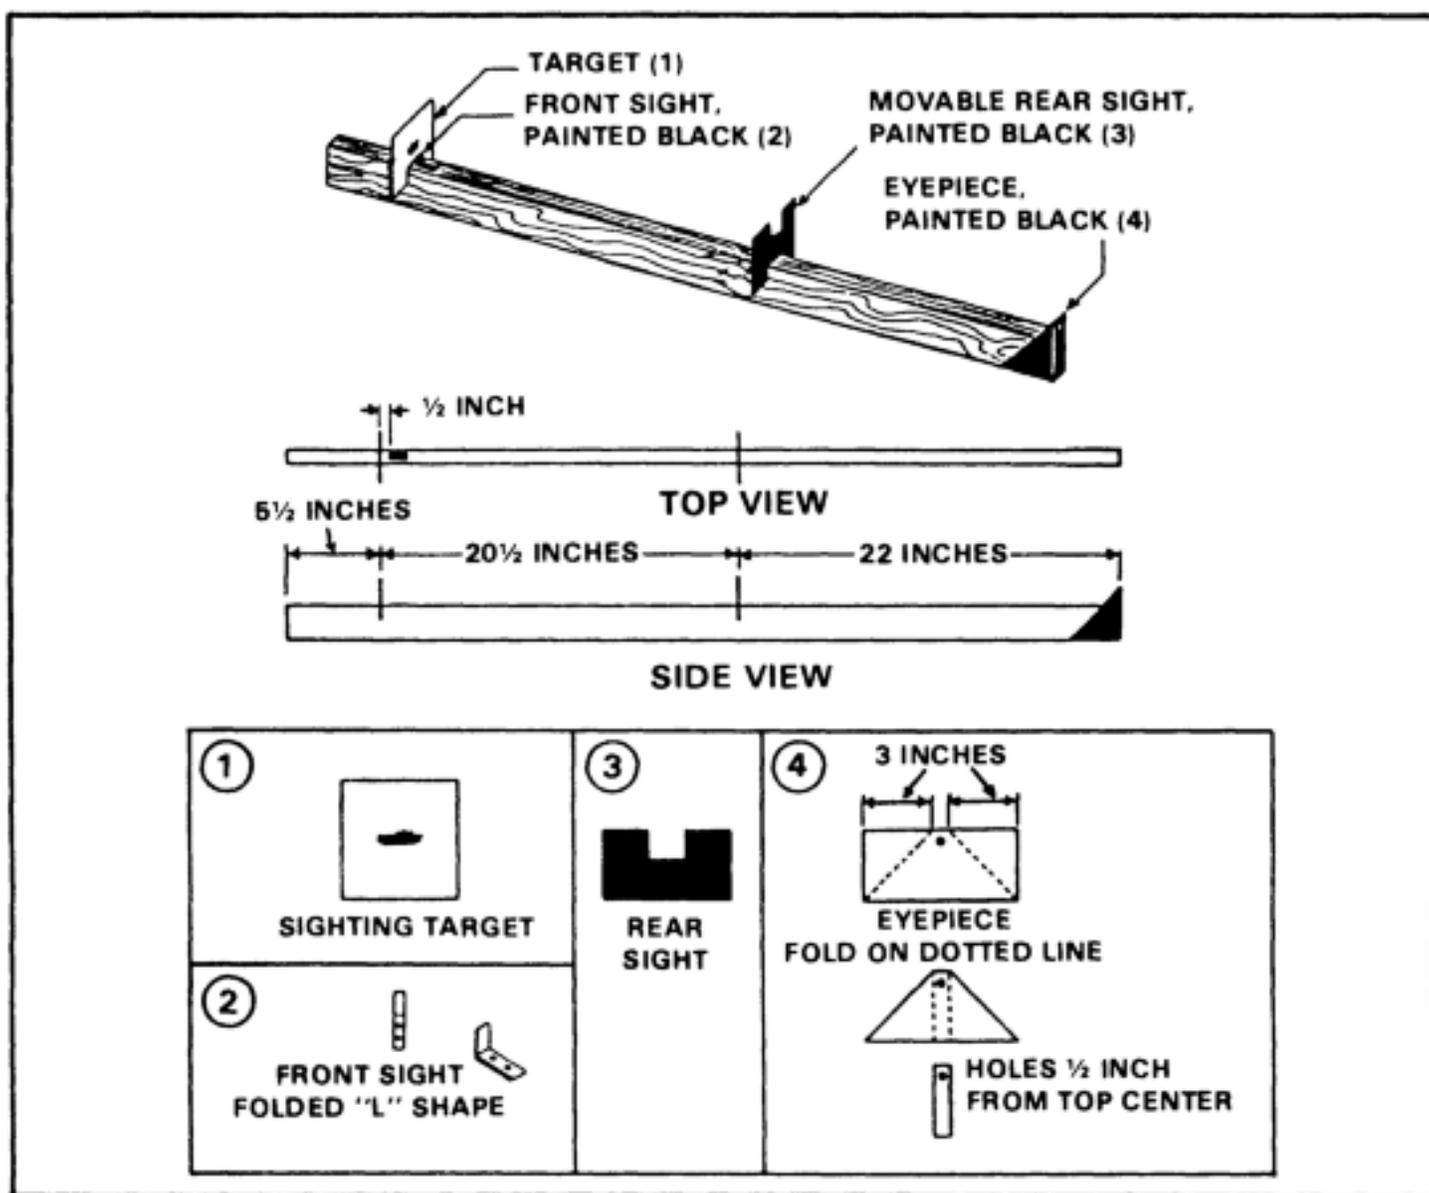

Figure 5-8. Sighting bar.
(1) This exercise teaches how to get the correct sight picture, and also teaches alignment methods. Sight alignment means lining up the front and rear sights, with the top center of the front sight blade appearing in the center of the rear sight. Sight picture means lining up the front sight, the front sight blade just target, with the tip of the front sight, and the touching the bottom center of the target. Gunners must show skill in aligning sights correctly and in getting the correct sight picture, using a sighting bar Figure 5-8). Gunners must correctly show the point of aim, after sight alignment, 8 out of 10 times.